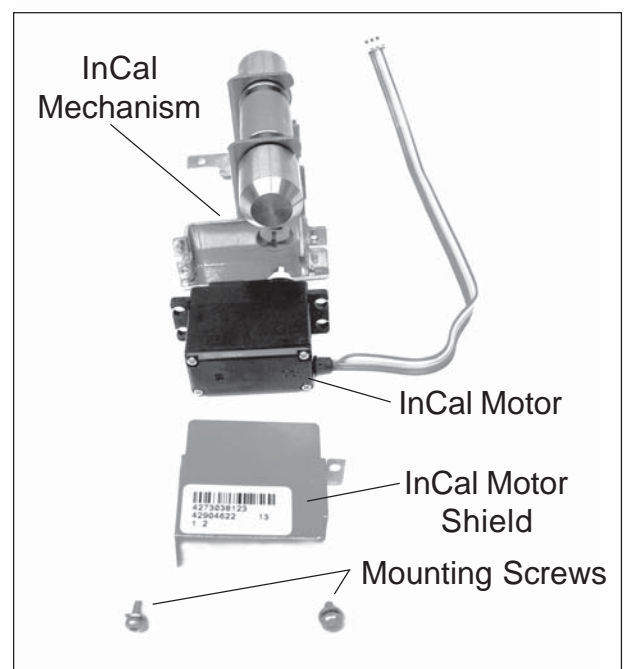

Figure 3-25. InCal Motor Removal.
4. Remove the 2 screws holding the InCal Motor and InCal Motor shield in place from the InCal mechanism. See Figure 3-25.